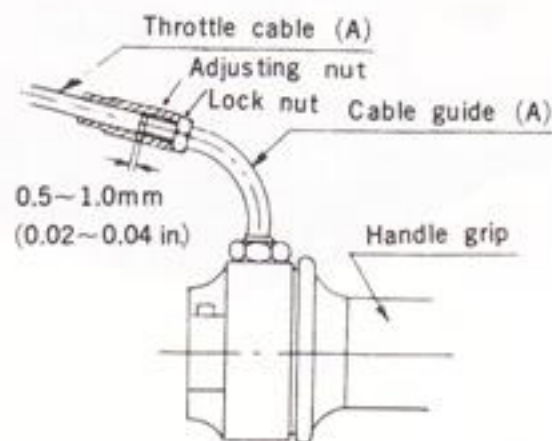

Fig. 2-3-6
- b. Next, adjust throttle cable (A) so that the gap as shown in Fig. 2-3-6 below will be between 0.5 to 1.0 mm. (0.02 ~ 0.04 in.)